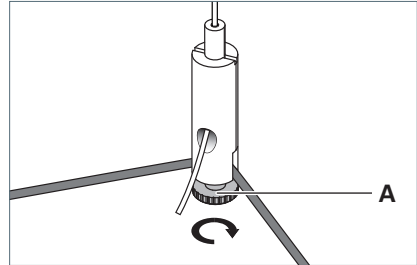

Fig. 19: Aligning the luminaire.
- To align the luminaire, loosen screw **A** at the wire rope holder, see Fig. 19.